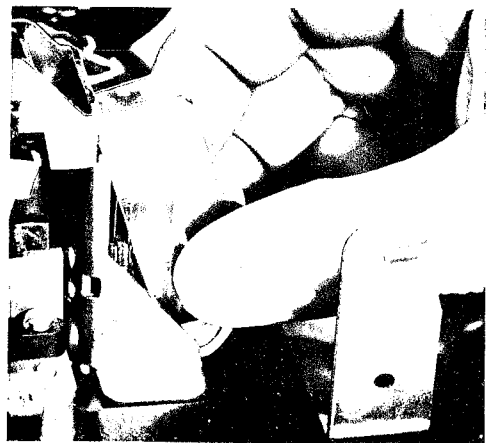

Fig. 31 — Removing Switch-Cover Assembly
- (1) Do not perform any field maintenance other than replacing cover and cleaning contacts, except as noted in 4 to 6 below.
- (2) Remove switchhook cover by depressing sides between thumb and index finger and tilting cover up and away from mounting (Fig. 31).
- (3) Replace set if any other trouble is encountered in switchhook assembly, except as noted in 4 to 6 below.